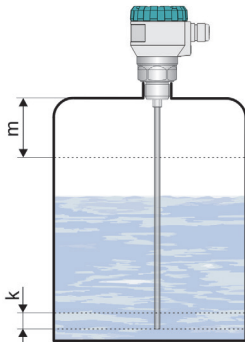

Fig. 3: Level meter dead zone with rod electrode
- In connection with the measurement principle, the signals **reflected** in the area just under the level meter can not be evaluated. **The zone** (Fig. 3 and 4) determines the min. distance possible between the level meter and the highest surface level. The **min. distances** to medium are shown in tables below. It is necessary to install the level meter so that the bin level cannot **interfere** with the dead zone when filled up to the maximum. If the measured level interferes with the dead zone, the level meter will not work properly.